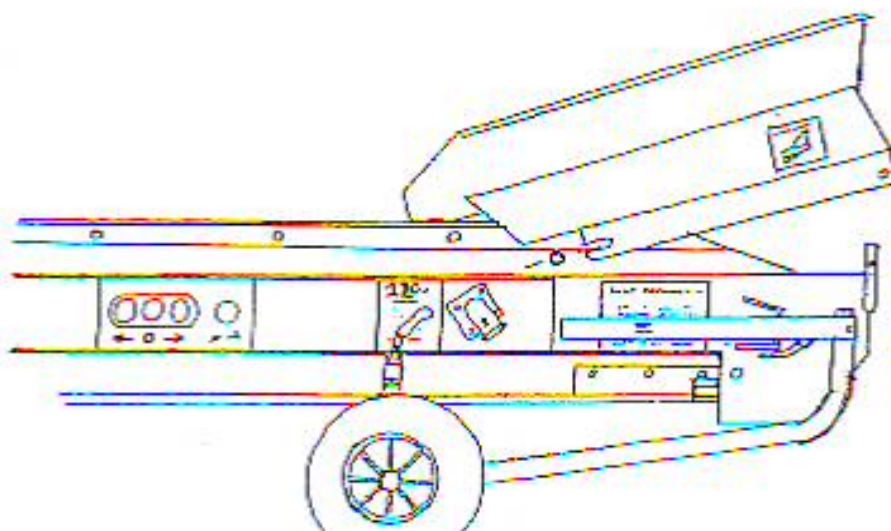

fig.1
2. Fit Hopper to base of machine (fig 1)